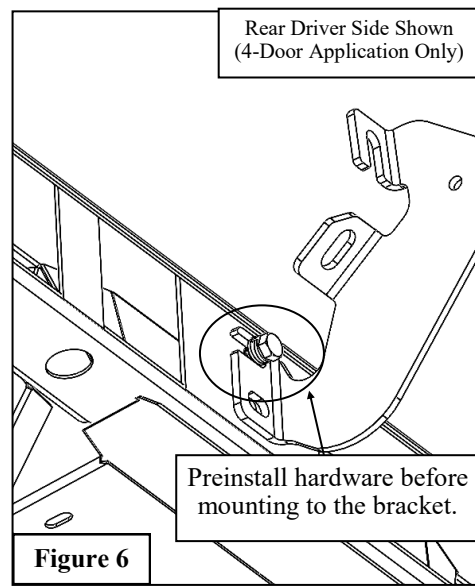
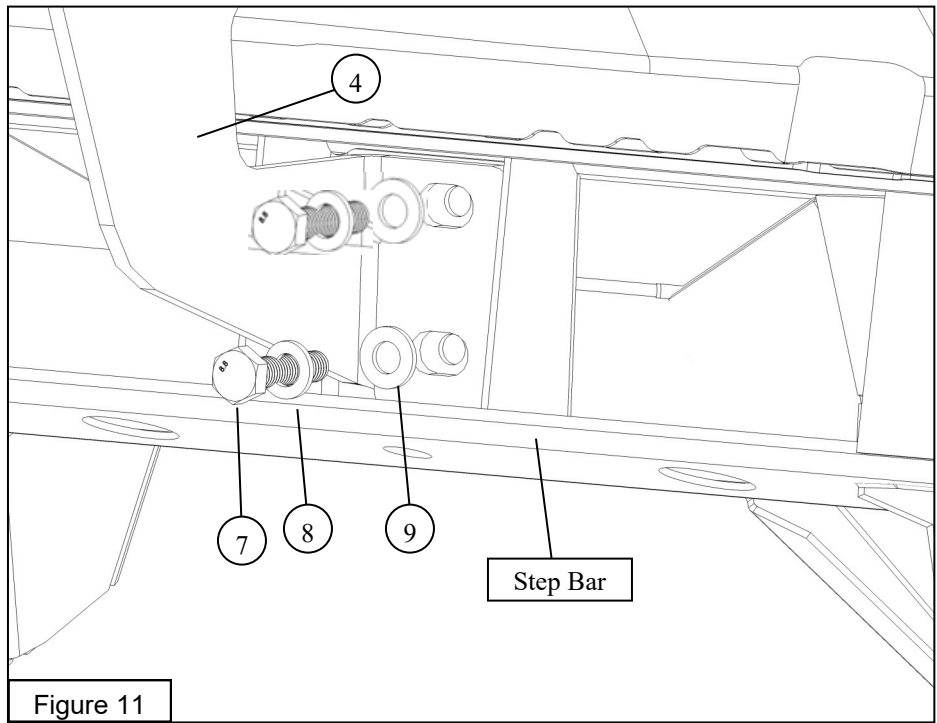

Figure 6
Figure 11
8. Locate the Driver Step Bar Assembly (Item 1) and loosely secure it onto the previously installed mounting brackets using the provided M8 hardware. For the 4-Door application partially insert M8 Hardware into board and slide the slotted bracket onto the bolt. See **Figure 6** for reference.
10. Mount the Step Bars (Items 1 & 2) on the mounting brackets accordingly using supplied M8 Hardware. See Figure 11 for reference. **Note: All brackets mount to the drop step in the same way, except as outlined in Figure 6.**